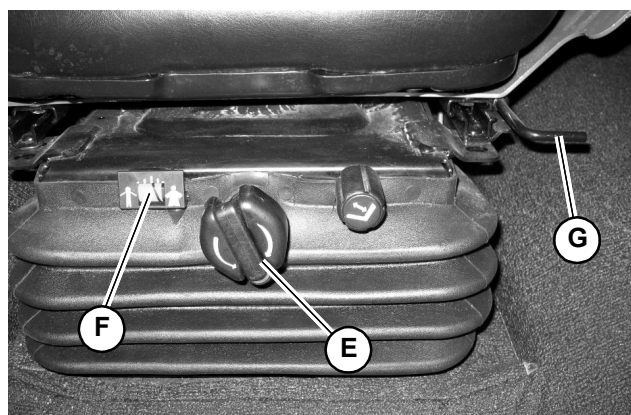

Fig. 26 – Operator's Seat Adjustments
- Forward and back horizontal position (G, Fig. 26).
- Up and down vertical height/weight suspension (E).
While sitting in the operator's seat, pull up on handle (G, Fig. 26). Move the seat and control lever base forward or back as desired. Release bar (G) when the seat is in the desired position. Make sure the seat is locked in position after adjusting.
While sitting in the operator's seat, turn knob (E, Fig. 26) as necessary to center the black line on the yellow background in indicator (F).